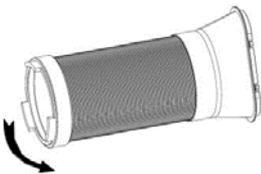

Fig. 6
- Connect the exhaust pipe to the round joiner disc, turning counter-clockwise (as shown in Fig. 6).